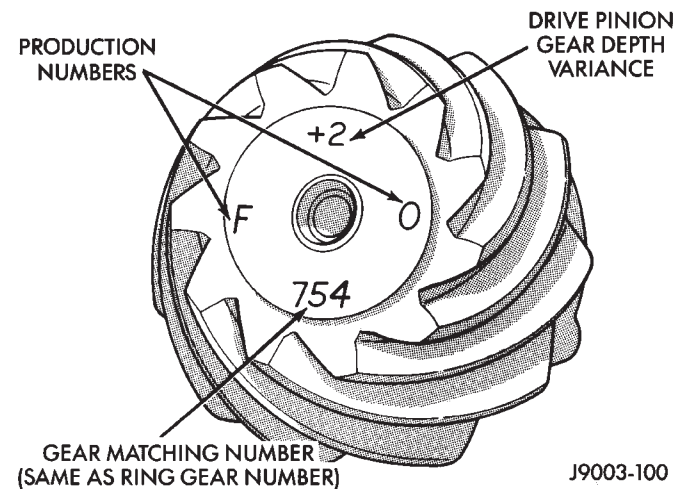

Fig. 64 Pinion Gear ID Numbers
Ring and pinion gears are supplied as matched sets only. The identifying numbers for the ring and pinion gear are etched into the face of each gear (Fig. 64). A plus (+) number, minus (–) number or zero (0) is etched into the face of the pinion gear. This number is the amount (in thousandths of an inch) the depth varies from the standard depth setting of a pinion etched with a (0). The standard setting from the center line of the ring gear to the back face of the pinion is 96.850 mm (3.813 in.). The standard depth provides the best teeth contact pattern. Refer to Backlash and Contact Pattern Analysis Paragraph in this section for additional information.
(9) Select a shim equal to the dial indicator reading plus the drive pinion gear depth variance number etched in the face of the pinion gear (Fig. 64) using the opposite sign on the variance number. For example, if the depth variance is -2 , add $+0.002$ in. to the dial indicator reading.